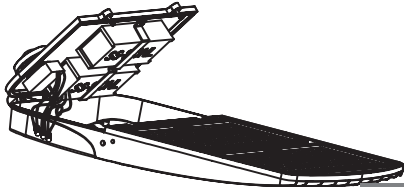

Figure 4
4. Secure the driver cover back to fixture body. (Fig. 4.)